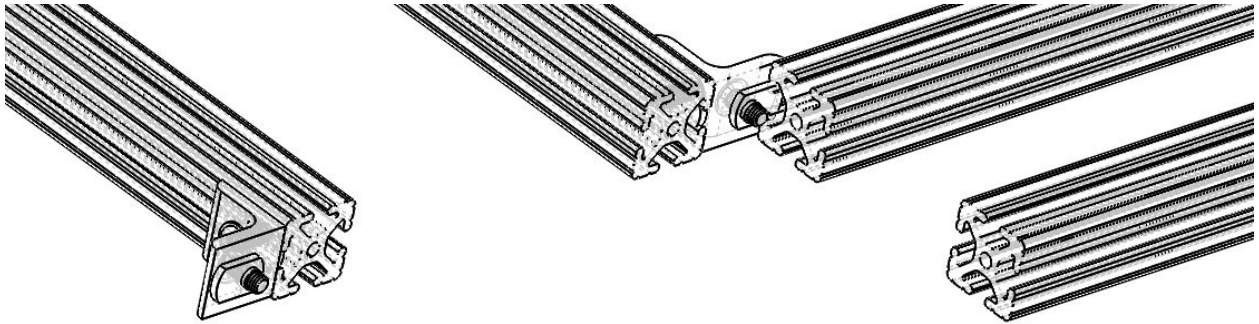

Fig. 3.14: 2ft beam (#QDXE) with corner brackets sliding in one 4ft beam (#HJXQ).
- ❑ Take two **2 feet rails** (#QDXE) and insert one corner bracket, only on the left side of the one beam and the right side of another beam, see Fig. 3.14.
- ❑ Slide one **4 feet** beam (#HJXQ) to insert into the end-feed fasteners on the L brackets of these two **2 feet** beam (#QDXE), see Fig. 3.14.